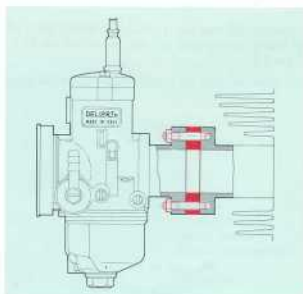

fig. 6
**C-flange fixing** (figure 6)